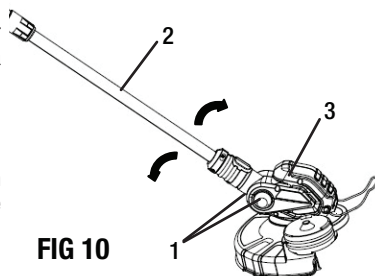

FIG 10
TILTING THE MOTOR HEAD (FIG 10)
1. Press the tilt buttons (1) on the both sides of the motor head (3).
2. Tilt the shaft (2) against the motor head to the desired angle as shown in Fig 10. A click sound indicates the shaft is locked in one of the positions.